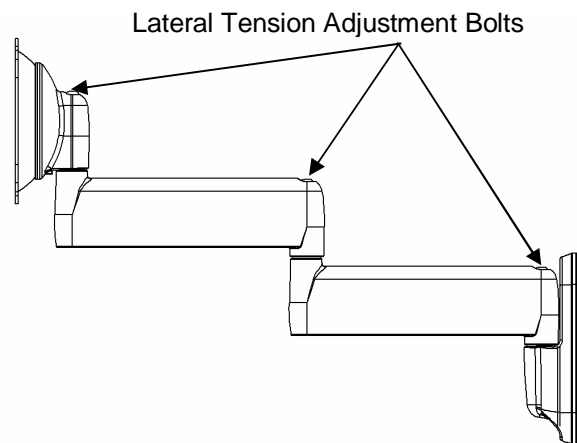

Figure 16. Adjust Lateral Tension
2. Using a 3/16" hex wrench (170) slightly tighten or loosen lateral tension adjustment bolts. (see Figure 16)